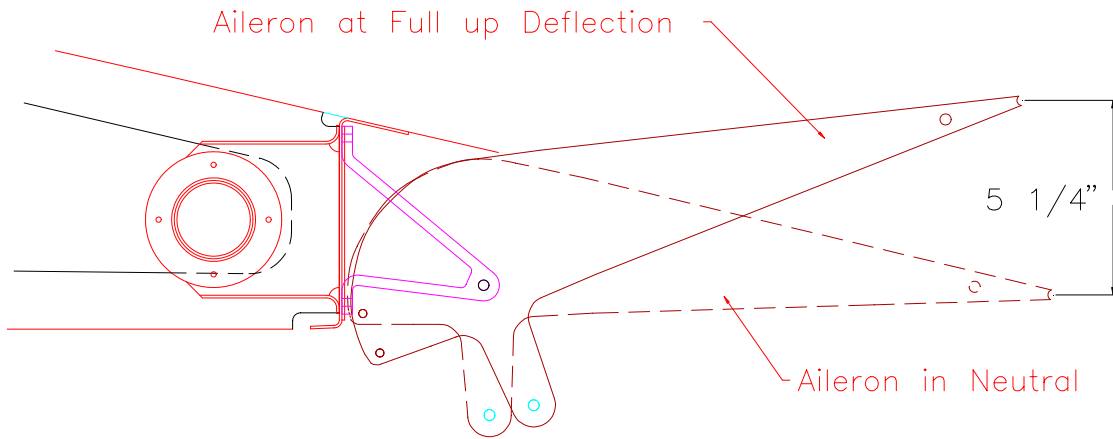

Figure 15.8.15
- 34) Place the right wing Aileron in the full up from neutral position. Figure 15.8.15.